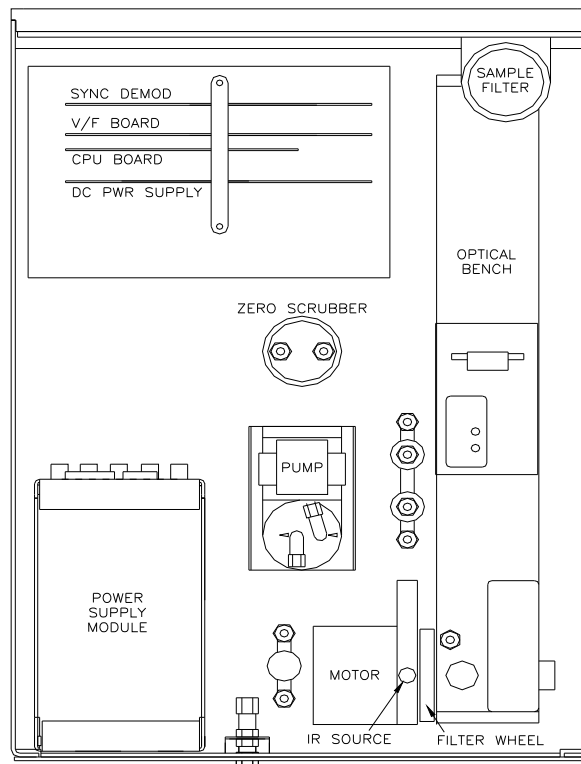

FIGURE 2
3. Locate the Synchronous motor (Figure 2); disconnect the connector from the motor to the wiring harness. Install the KIT000119 (50HZ capacitor) between the motor and the wiring harness.